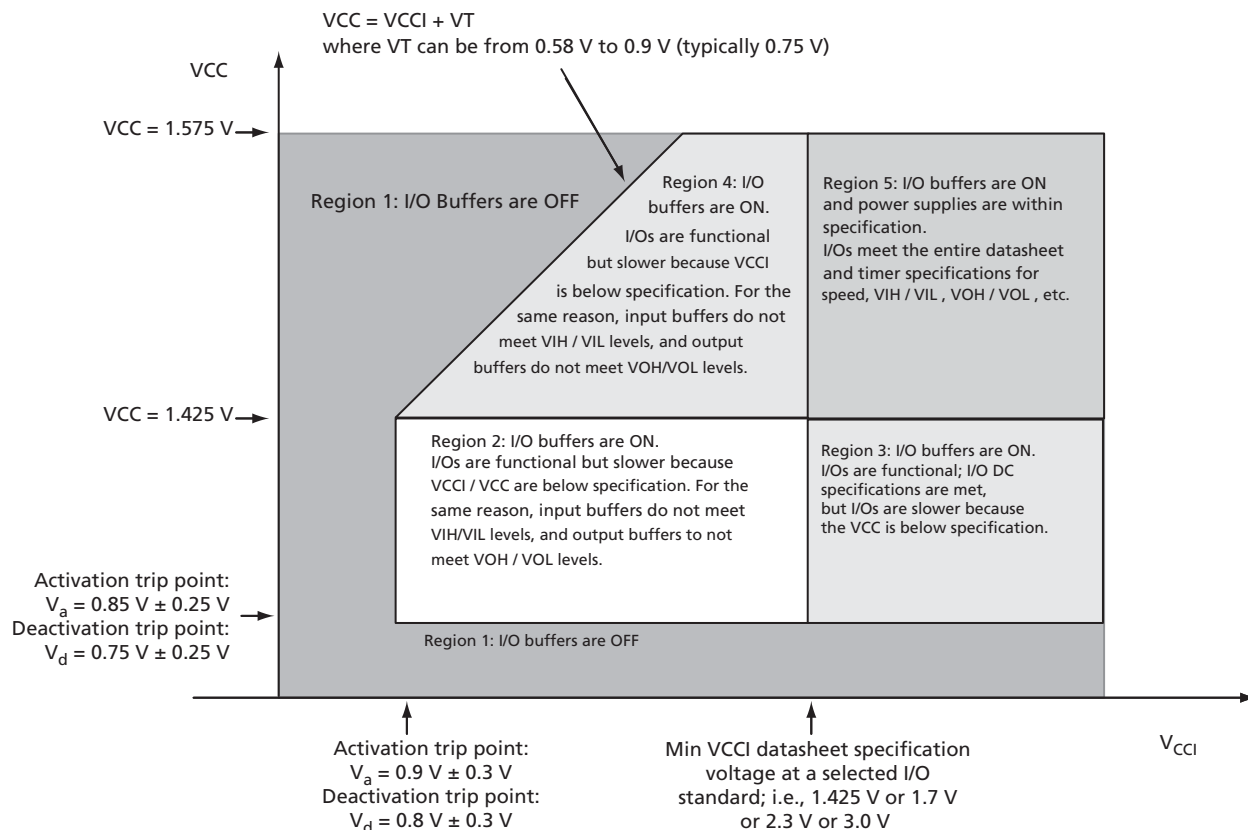

Figure 2-1 • V5 Devices – I/O State as a Function of VCCI and VCC Voltage Levels
Sophisticated power-up management circuitry is designed into every IGLOO nano device. These circuits ensure easy transition from the powered-off state to the powered-up state of the device. The many different supplies can power up in any sequence with minimized current spikes or surges. In addition, the I/O will be in a known state through the power-up sequence. The basic principle is shown in Figure 2-1 on page 2-4.
1. VCC and VCCI are above the minimum specified trip points (Figure 2-1 and Figure 2-2 on page 2-5).
Actel recommends using monotonic power supplies or voltage regulators to ensure proper power-up behavior. Power ramp-up should be monotonic at least until VCC and VCCPLX exceed brownout activation levels (see Figure 2-1 and Figure 2-2 on page 2-5 for more details).